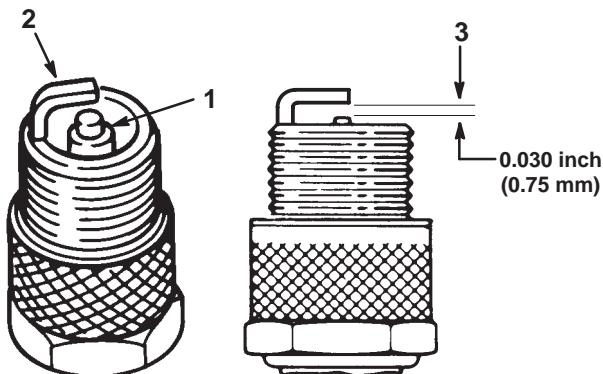

Figure 40
1. Look at the center of the spark plugs (Fig. 40). If you see light brown or gray on the insulator, the engine is operating properly. A black coating on the insulator usually means that the air cleaner is dirty.
2. Check the gap between the center and side electrodes (Fig. 40). Bend the side electrode (Fig. 40) if the gap is not correct.